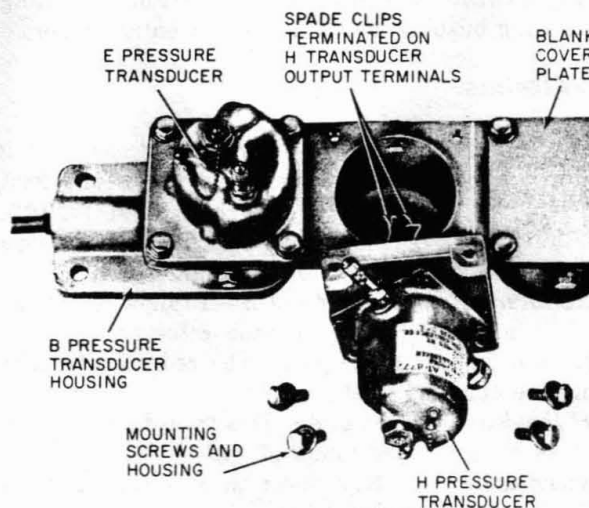

Fig. 19—Stub Cable Pair Terminated on H Transducer
- (2) Place O ring (furnished with H transducer) on rear flange of transducers adaptor plate. Cement may be used to aid in holding it in place.
- (3) Terminate the spade clips of the stub cable pair to the H transducer binding posts (Fig. 19).